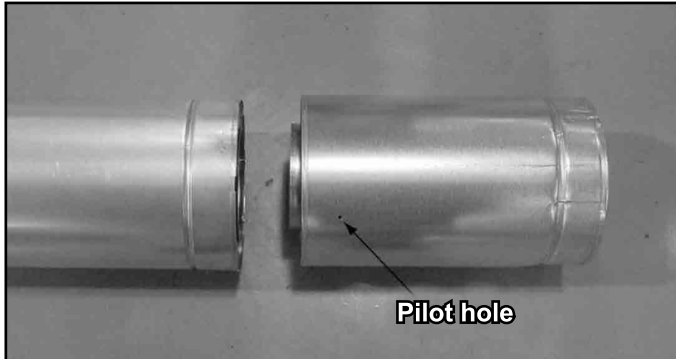

Figure 10.3 - Slip Section Pilot Holes
- Slide the inner flue of the slip section into the inner flue of the pipe section and the outer flue of the slip section over the outer flue of the pipe section. See Figure 10.3.